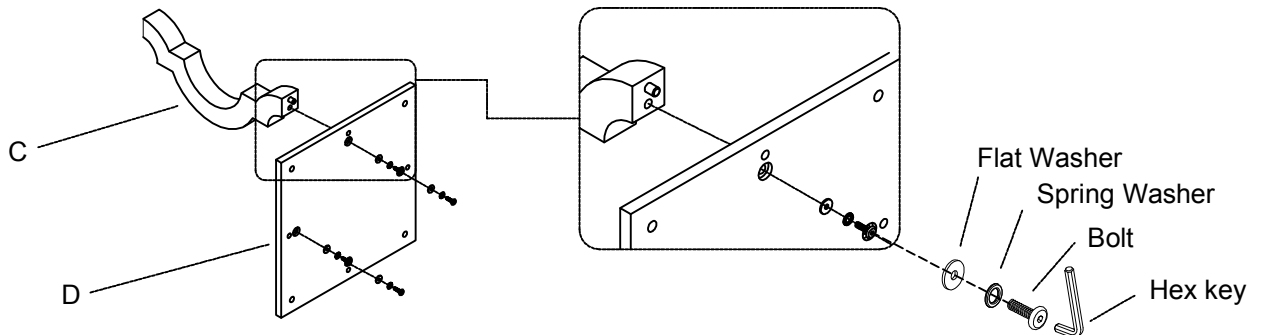

Figure 1
Attach all the Side Sections (C) to the Assembly Panel (D) with the Bolt, Spring Washer and Flat Washer, tighten with the Hex Key. (See Figure 1)